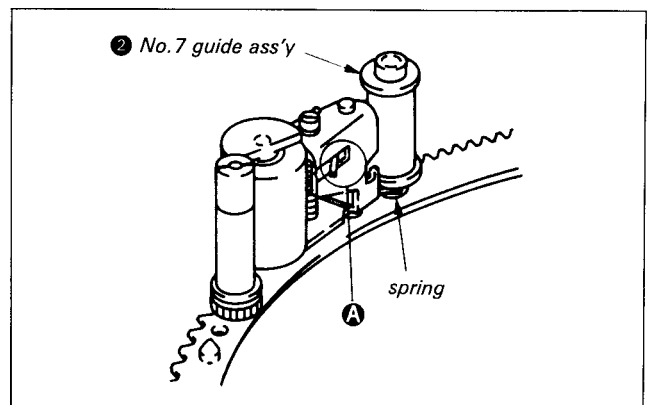

Fig. 7-24.
- 4) Place the spring on No. 7 guide assembly ②. At this time, check that the spring is hooked on section A. (See Fig. 7-24.)